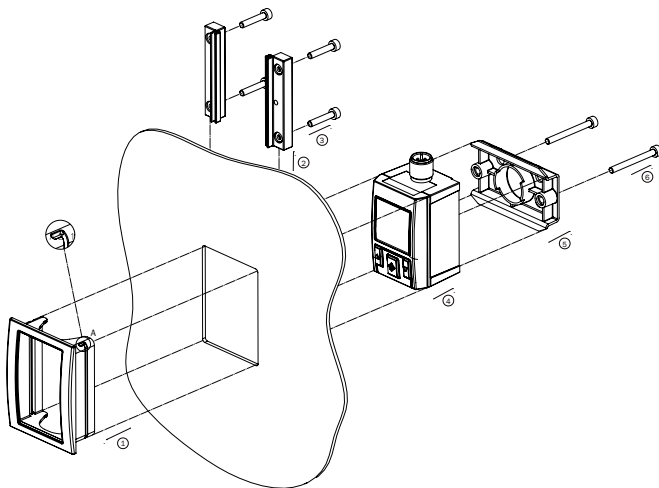
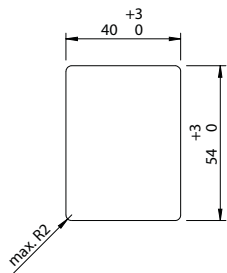

Figure 10: Switch panel mounting set, rugged
Figure 11: Opening in the switch panel
To install in a switch panel, use the switch panel mounting set for rugged applications, which is available as an accessory (see Figure 10). The maximum switch panel thickness is 5 mm. Figure 11 shows the dimensions of the cut-out section in the switch panel.
Secure the fixing element in the mounting rail support for the pressure switch, see Figure 10.
5.4 Pressure connection via the G ¼ female thread (Figure 11)